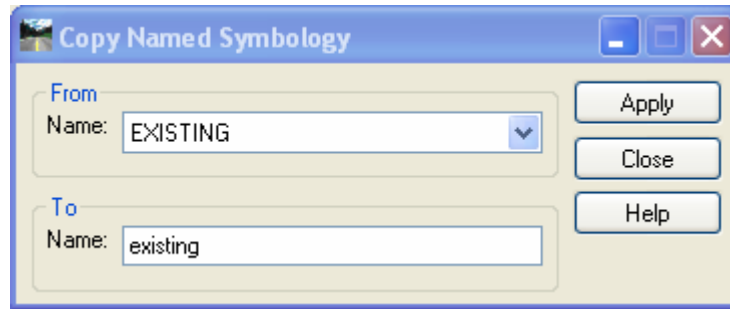

Figure 3-5 InRoads Copy Named Symbology Dialog Box
- C. Data point on the name **EXISTING** and select the **Copy** button. Type in the word **existing** in lower case as shown in Figure 3-5.